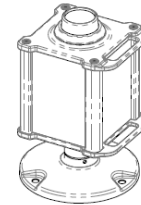

Figure 4-10
5. Connect the connecting cable to the original position of the circuit board, cover the front cover and tighten the screws (Figure 4-10).